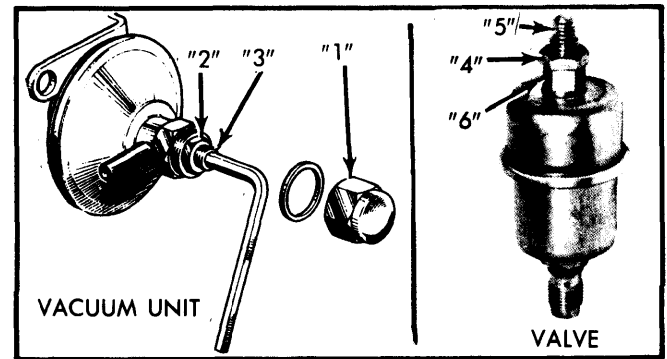

Fig. 3 Adjusting Fast Idle at Deceleration Vacuum Unit
3) Remove domed nut "1" in Fig. 3. Loosen lock nut "2" and start engine. Engine speed should be 1500-1550 RPM.